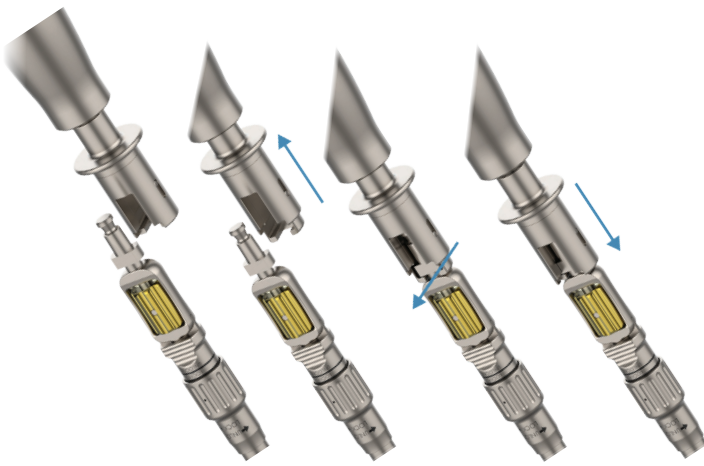

Figure 6a
- Option A. Remove the inline handle (330H0009) and connect the slap hammer directly to the locksleeve inserter (Figure 6a).